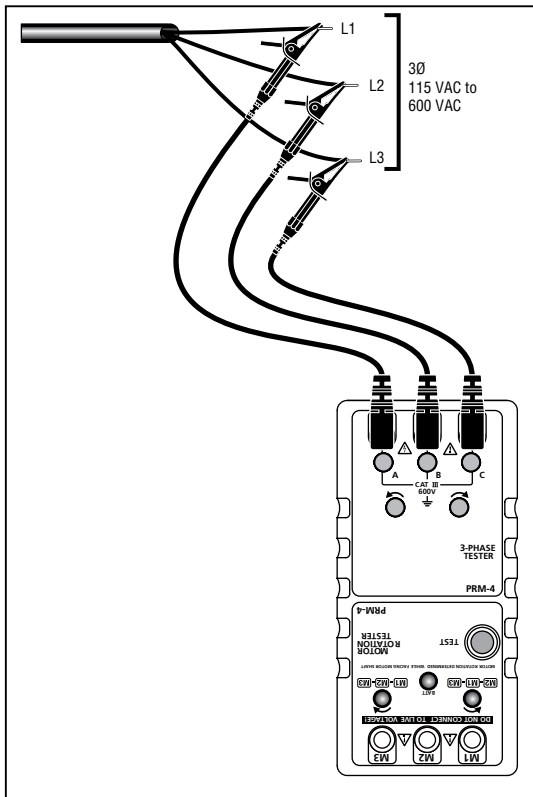

Figure 1
1. Connect the three color coded test leads to the 3-phase input terminals, L1-L2-L3 also know as A-B-C or R-S-T. See Figure 1.